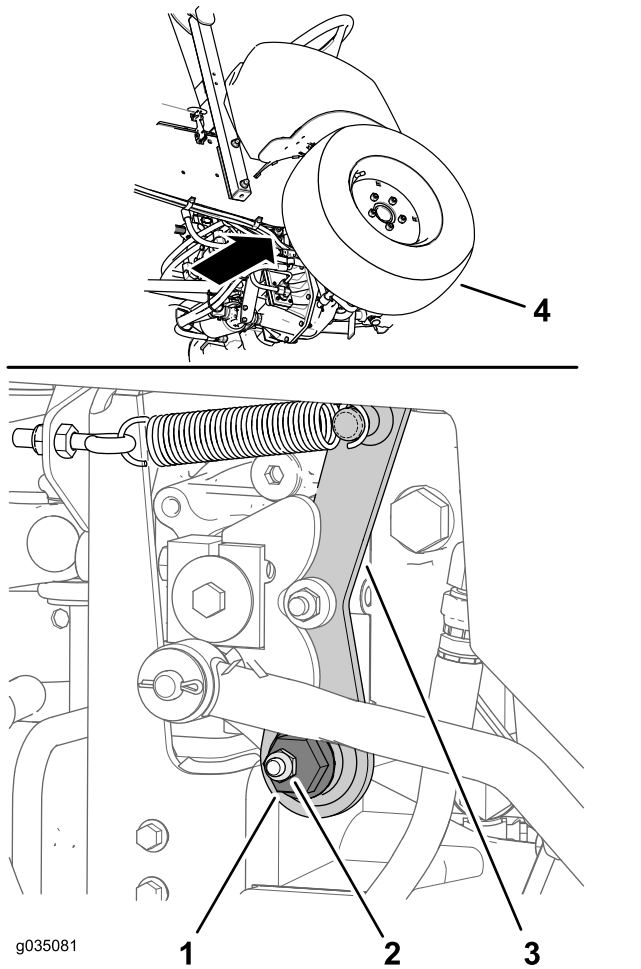

Figure 65
1. Locate the eccentric hex to the right of the hydraulic pump and below the control console (Figure 65).
2. Loosen retaining nut until you can move the eccentric hex (Figure 65).
4. Rotate the eccentric hex counterclockwise until the front wheel starts to rotate forward, then rotate the hex eccentric clockwise until the front wheel starts to rotate rearward (Figure 65).